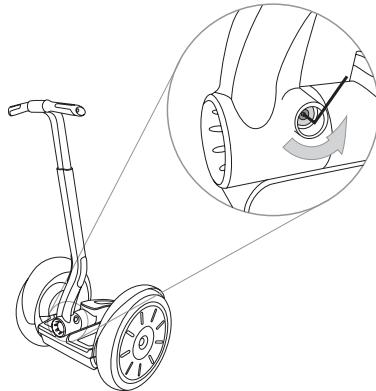

Figure 28. Loosen Fastener Holding LeanSteer Frame
2. Using a 5mm hex wrench, remove the fastener holding the LeanSteer Frame in place. See **Figure 28**.